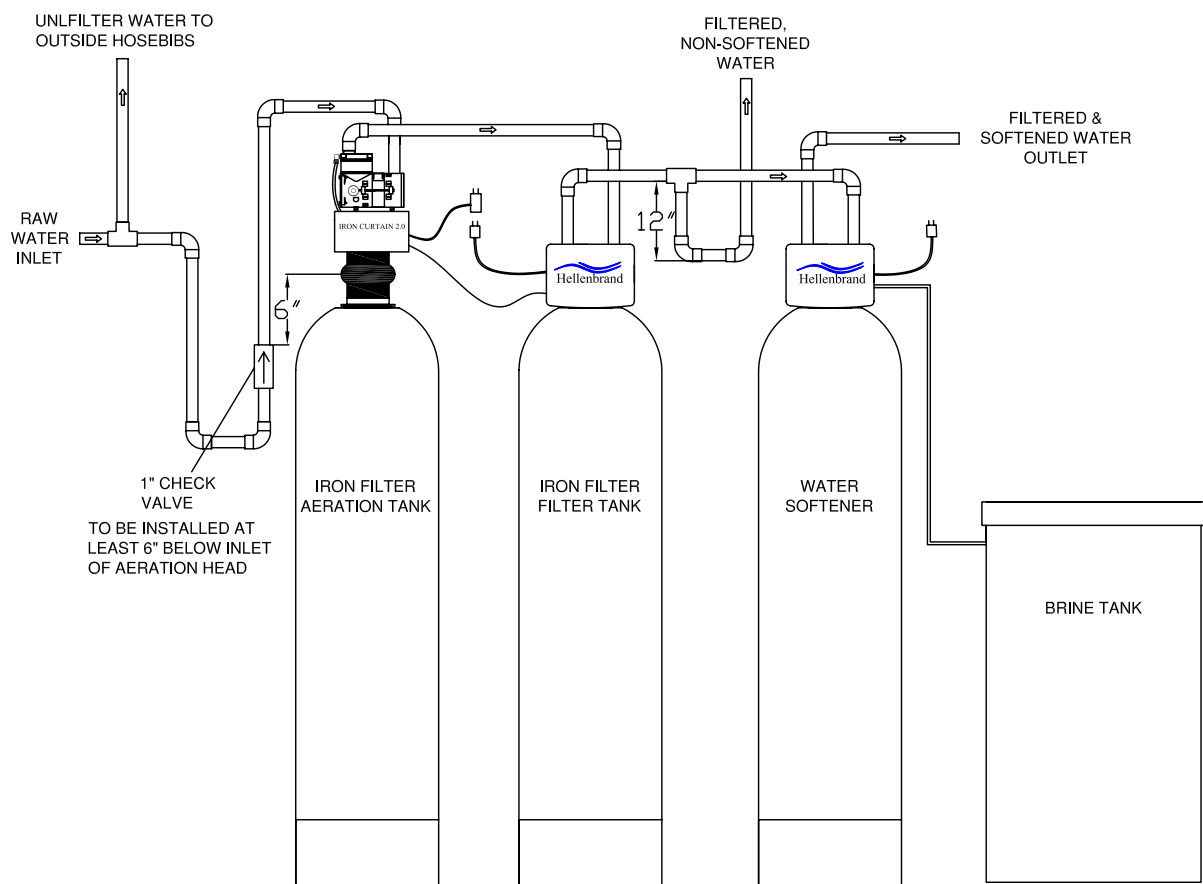

Figure 1
Equipment Location: See Figure 1, on page 7.
Location of Aeration and Filter Tank: See Figure 1 on page 7. These two tanks should be installed after the pressure tank and as close to each other as practical. If you want to filter outside hosebibs, be sure the filter system is properly sized to handle the flow rates required for extended periods of time, in addition to the normal household demand.
Check Valve: On applications where there is a non-filtered demand for water such as joint wells (where the filter system is only installed in one of two or more homes), outside hosebibs, farms with outbuildings, yard hydrants, etc. a spring loaded check valve is provided and must be installed ahead of the aeration tank. See Figure 1, on page 7. Install the check valve in a vertical upflow position with a minimum 6" water column above the check valve. This prevents air from escaping past the check valve. If the check valve is installed in a horizontal position, and there is a simultaneous demand for both non-filtered and filtered water, the air head in the aeration tank may escape backwards past the check valve into the non-filtered water line.
2. The inlet check valve must be installed in the upflow position on the raw water supply feeding the aeration tank. (See figure 1 page 7 for proper check valve installation procedures)
3. When installing an Iron Curtain Filter system it is common to provide filtered water to some fixtures such as the kitchen cold faucet. This is typically done as a matter of personal preference. In rare occasions it has been noted that the customer may experience some air in the filtered water line on the morning after regeneration. It has proven to be beneficial to plumb the line for the filtered-only water fixture in a downward direction before the inlet to the softener (12 inches recommended), then make a reverse turn and go upward toward the fixture. Understanding that air always rises to the highest point in a water system, and it cannot naturally flow downward. (Figure 1, page 7)